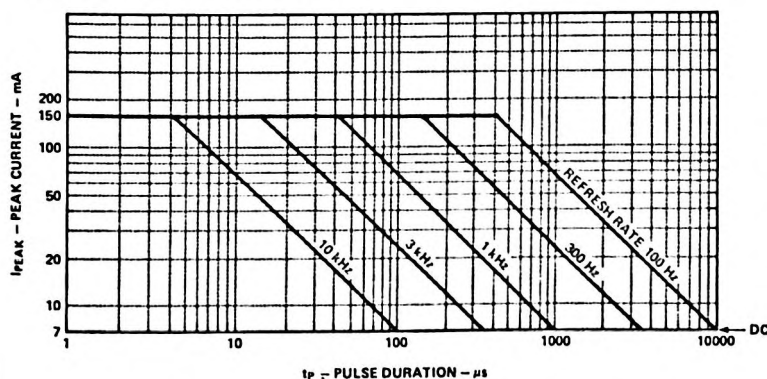

Figure 1. Maximum Allowed Peak Current vs. Pulse Duration. Derate derived operating conditions above $T_A = 50^{\circ}C$ using Figure 2.
- Maximum allowed drive conditions for strobed operation are derived from Figures 1 and 2. See electrical section of operational considerations.